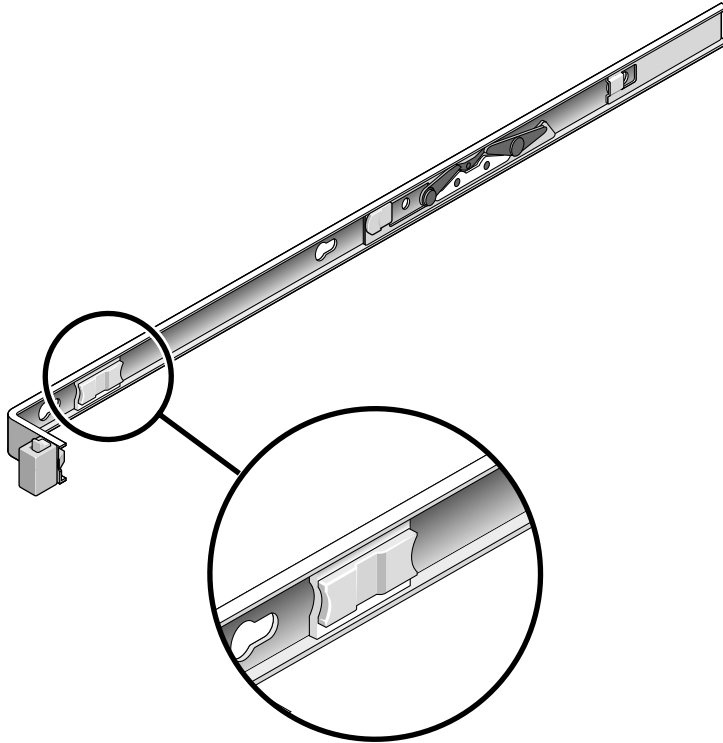

FIGURE 2-13 Slide Rail Release Button
6. **Pull both slide rail release buttons toward you simultaneously and slide the server back into the rack (FIGURE 2-13).**